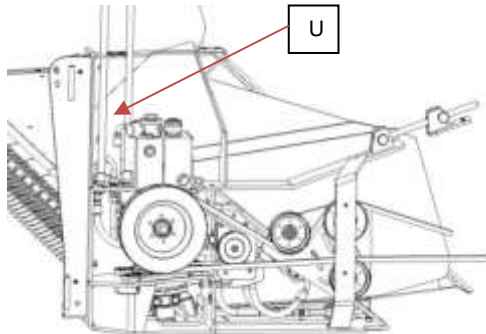

Fig.1
- Unscrew the side protective hood (A), pull out the vertical rod - the door hinge and remove the protective hood (Fig.1).
- Unscrew the connection bypass (U) – the U-shaped tube (Fig.1).